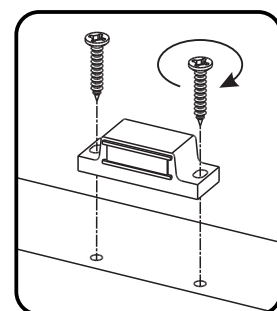

Figure 7
Attach Magnets (6) to Front Rail (W) by inserting Wood Screws (7) into pre-drilled holes, then tighten. (See Figure 7)